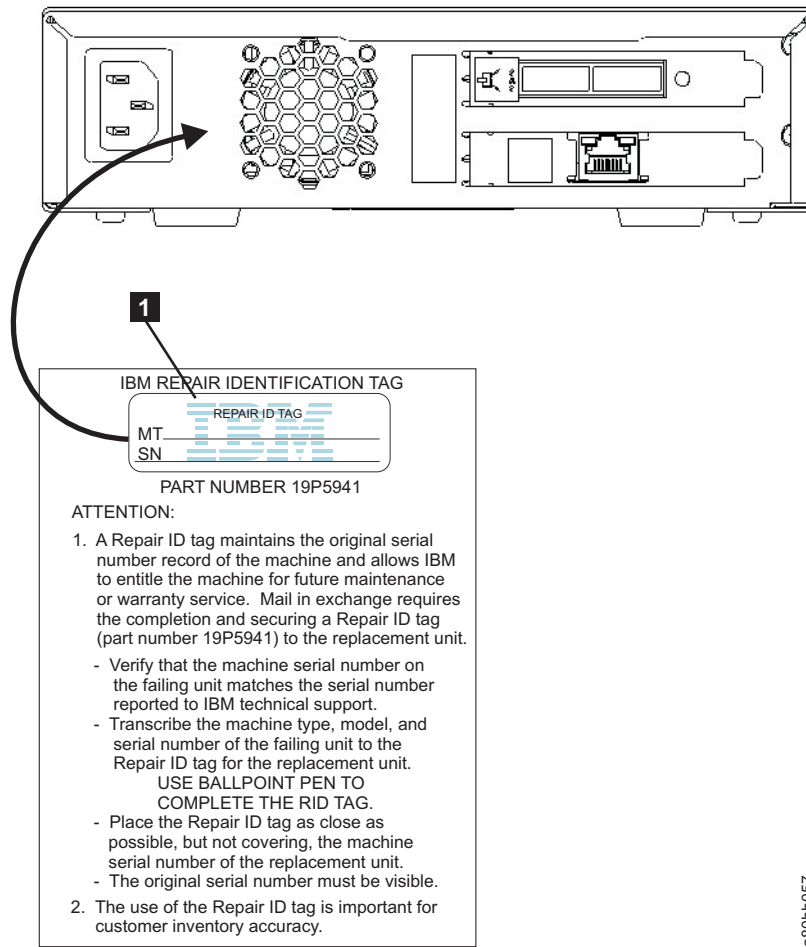

Figure 5-2. RID tag on rear panel
2. Locate the repair identification (RID) tag (included with the replacement unit). See **1** in Figure 5-2 on page 5-6)